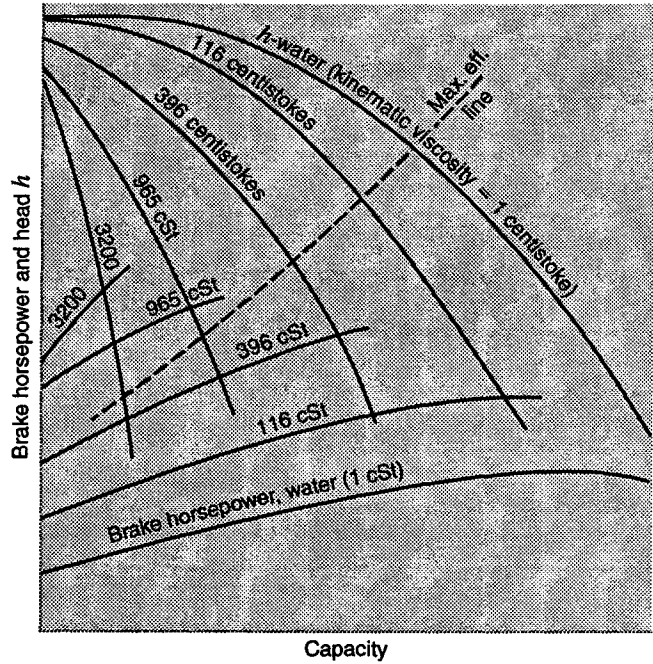

Figure 15.14
15.46 By scaling the necessary data off Fig. 15.14, find the approximate specific gravity of the liquid whose kinematic viscosity is 396 times that of water. Note that the maximum efficiency when pumping this liquid is 18%, and when pumping water it is 85%.
By measuring Fig. 15.14 we find the following ratios at maximum efficiency:
Fig. 15.14 for $N_s = 5010$: $\sigma_c \approx 0.5$